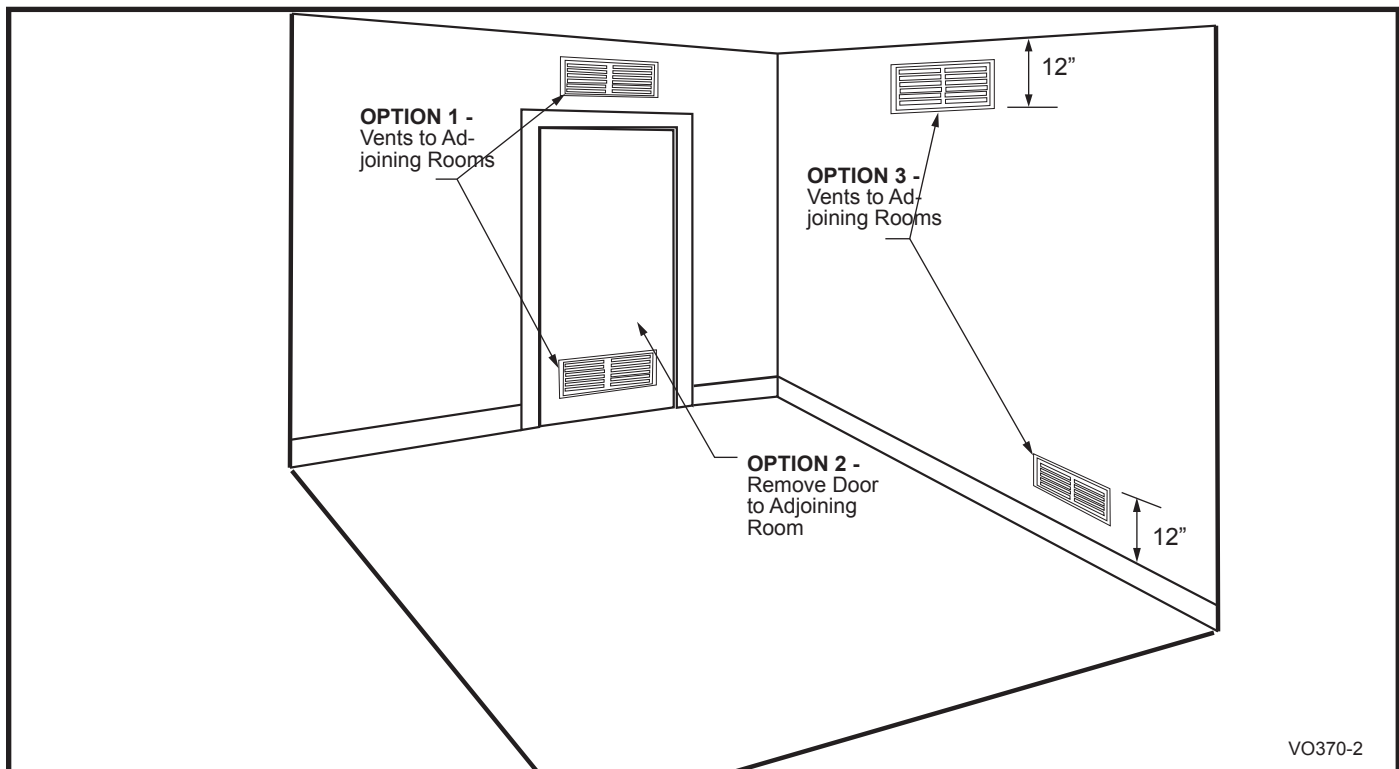

Fig. 2 Ventilation options for confined spaces.
A. Open up or provide at least two ventilating grilles to an adjoining unconfined space. (Fig. 2)